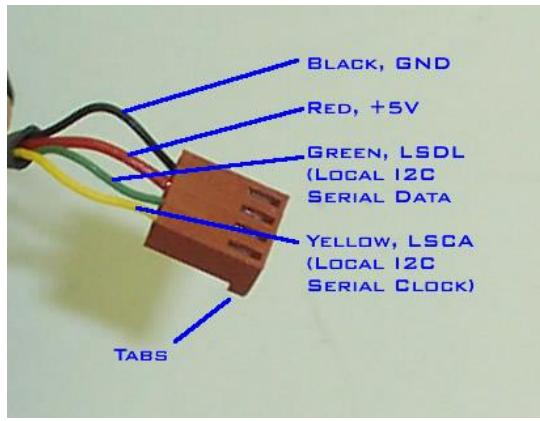
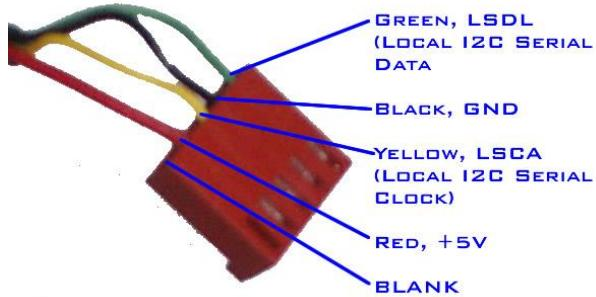

Figure 66: SRF08 Receptacle wiring: 4-position receptacle
Figure 67: SRF08 Receptacle wiring: 5-position receptacle
10. Slide the heat shrink back onto the end of the wire and shrink it as shown in Figure 66.
12. Install the crimps into the 4 pin connector as show in Figure 66 if connecting to the Trekker Expansion board. Install the 5-pin connectors as shown in Figure 67 if connecting to a OOPic II/II+ or OOPic-R parallel programming port..